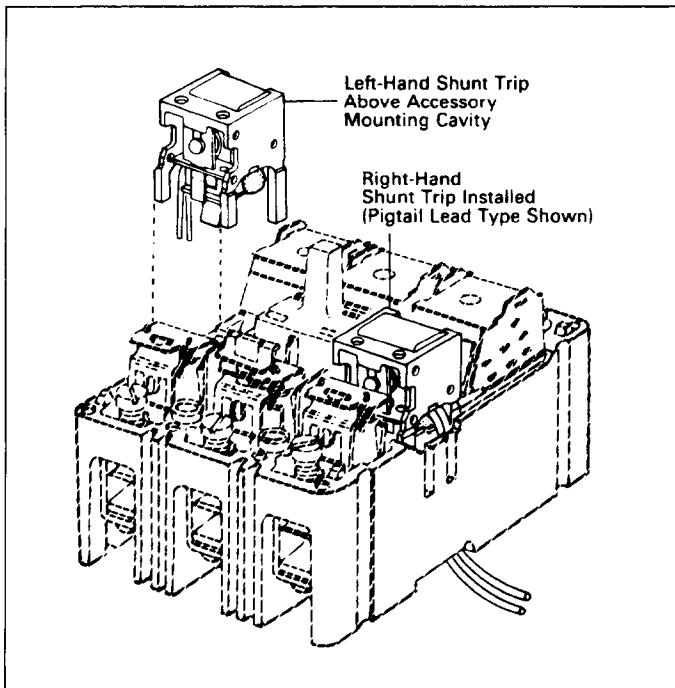

Fig. 2-3. Shunt Trip Installation Positions
- 2-6. Insert shunt trip as described in the following steps (see Fig. 2-3):